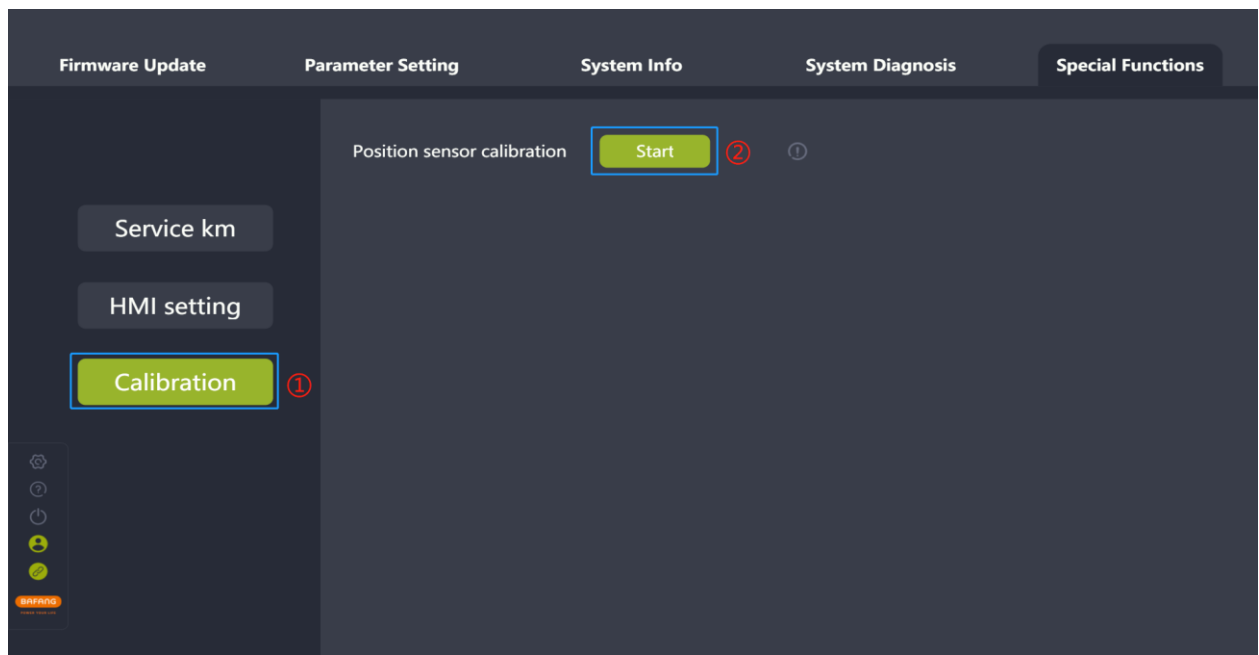

Fig. 8-5 Position sensor calibration
- (1) Connect the BESST Tool to the controller and select the "Calibration" icon.
- (2) Click the "Start" icon next to the tag "Position sensor calibration" to start the position sensor calibration (Fig.8-5).